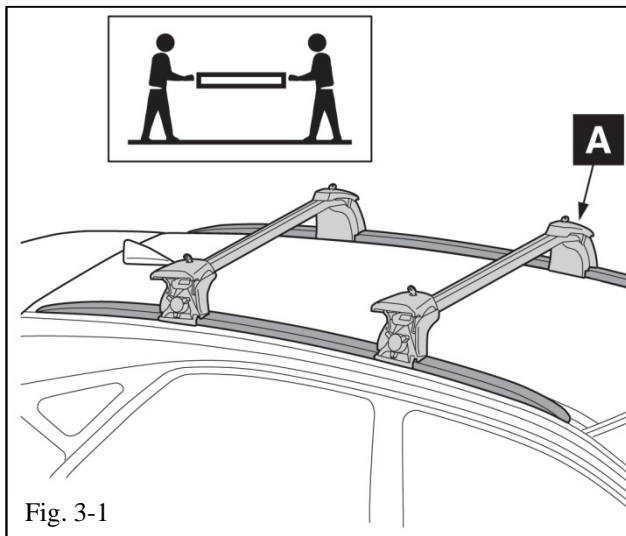

Fig. 3-1
- !** (a) Be sure to use 2 people (Fig. 3-1).